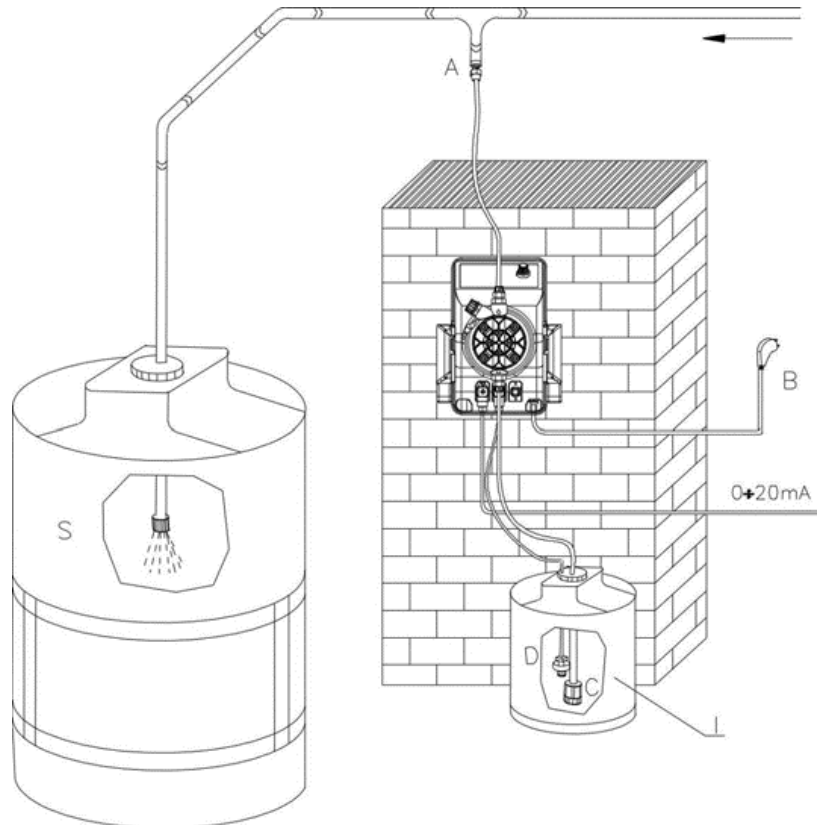

Fig. 17
8.2 - TYPICAL INSTALLATION (Fig.17)